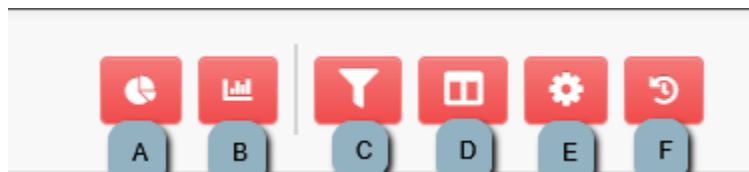

Figure 2
**Figure 2** – These are the new buttons at the top right of the page. While the main view will show the table and condition entry information, these buttons will allow access to other reports and functionalities as follows: